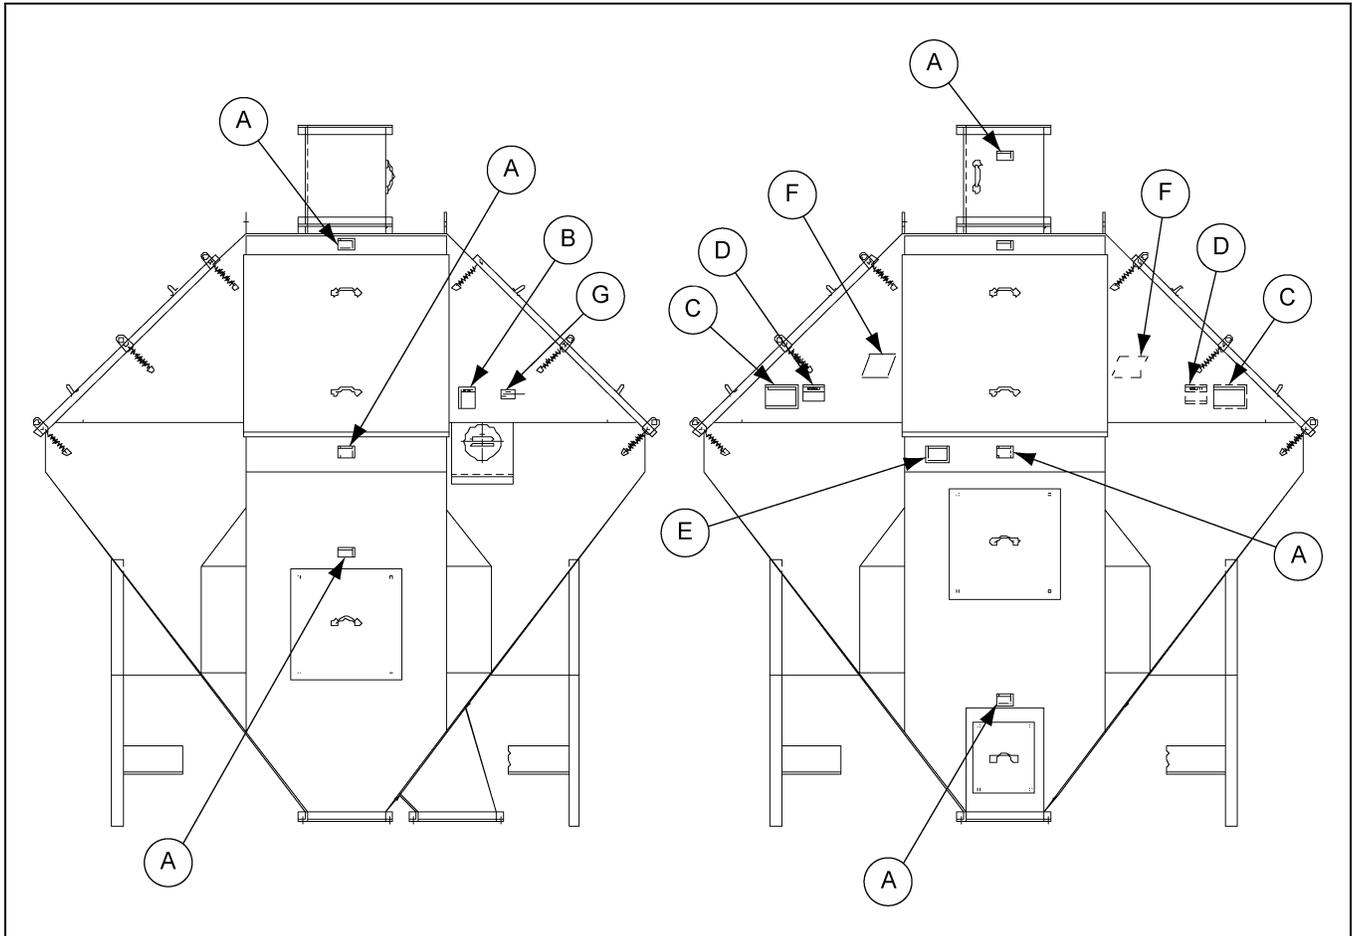

Figure 3A Safety Label Locations for Screener Models PC-1500 - PC-11500
Screener Models PC-1500 through PC-11500, Figure 3A on Page 11 are shipped completely assembled except for the inlet tube. Models PC-16000, PC-25000 and PC-40000, Figure 3B on Page 12 are shipped in three (3) sections: the upper main body with shipping stand, the lower discharge outlet section and the inlet tube.